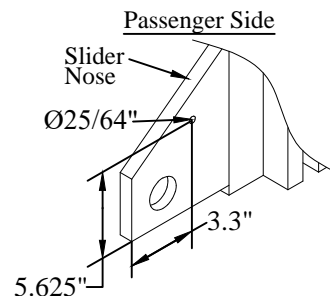

Figure 5: Torsion spring holder hole location.
1. **MARK** and **DRILL** a 25/64" hole in the passenger side slider nose at the location shown, if needed (Figure 5).